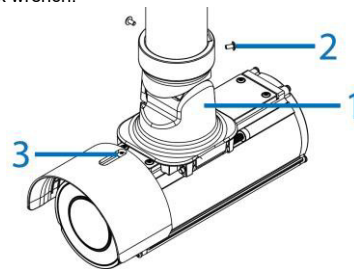

Figure 11
6. Place the mounting plate arm and camera into the pendant mount adaptor (1) (Figure 11) and securely attach the two M3x0.5P (L = 6mm) screws with the T10 security Torx wrench.
Note: When the camera is mounted inverted to a pendant 1 1/2" NTP pipe you must remove the sun shield hood by unscrewing the M3x0.5P (L = 8mm) screw with the T10 security Torx wrench (3) (Figure 11) and relocate the sun shield with screw as per the sun shield hood located in Figure 11.